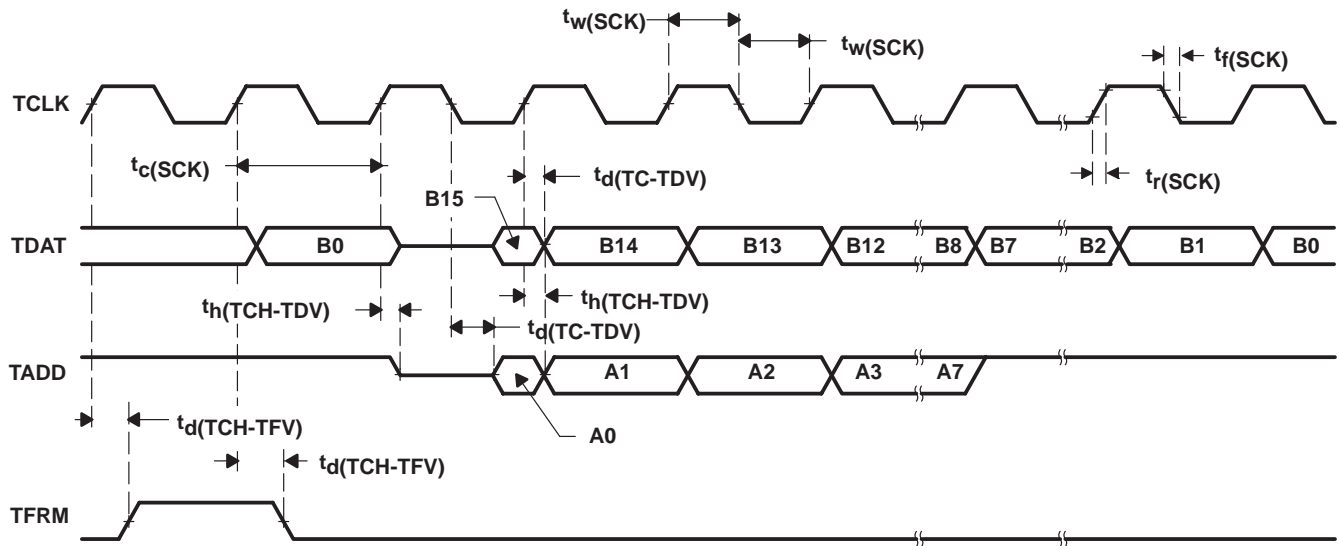

Figure 39. Serial-Port Transmit Timing in TDM Mode
‡ TFRM timing and waveforms shown in Figure 38 are for external TFRM. TFRM can also be configured as internal. The TFRM internal case is illustrated in the transmit timing diagram in Figure 39.
**switching characteristics over recommended operating conditions for serial-port transmit in TDM mode [ $H = 0.5t_c(CO)$ ] (see Figure 39)**
† TFRM timing and waveforms shown in Figure 39 are for internal TFRM. TFRM can also be configured as external. The TFRM external case is illustrated in the receive timing diagram in Figure 38.
timing requirements for serial-port transmit in TDM mode [ $H = 0.5t_{c(CO)}$ ] (see Figure 39)